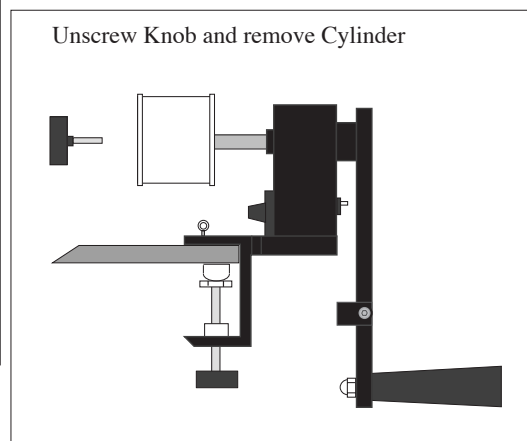

Figure 7 Clamp to Table and Remove Cylinder
- ① For best results, read this procedure through thoroughly before attempting the experiment
- ② A tube of powdered graphite lubricant is supplied with the equipment. Spraying the aluminum cylinder lightly with this before beginning the experiment will greatly reduce the wear on the aluminum surface.
- ① Clamp the apparatus securely to the edge of a level table or bench, as shown in Figure 7.
- ② Unscrew the black knob and remove the aluminum cylinder. Place the cylinder in a refrigerator or freezer, or pack it in ice, to bring the temperature down to at least 10 C° below room temperature.